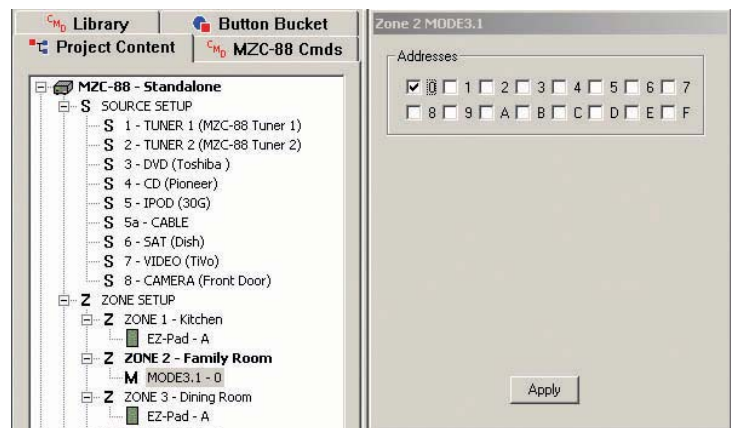

Figure 29
- Any keypad whether an EZ-Pad or MODE must have its Address configured in EZ-Tools. If there is only one keypad per zone, all keypads can be set to the same Address. Any time there is more than one keypad in a zone, each of the keypads within that zone must be set to a different Address. Right click the EZ-Pad or MODE 3.1 icon in a particular zone. Left click the **EZ-Pad** or **MODE 3.1 Setup** pop-up. Left click the desired box to set keypad Address. For the example, '0'. Left click **Apply**. The Keypad Address will appear next to the Keypad Icon in Zone Setup. (Refer to **Figure 29**)